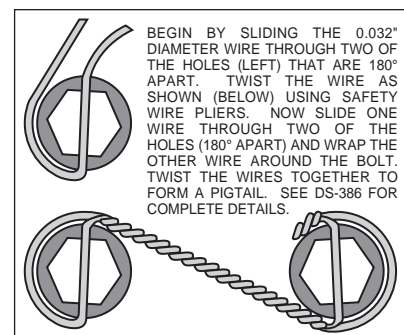

Figure 3. Safety Wire Diagram
- With the larger I.D. side of the rotor (3) facing away from the hat (4), bolt rotor (3) to hat (4) through the backside of the rotor using washers (5) and bolts (6). Using an alternating sequence, apply red *Loctite*® 271 to the threads and torque bolts to 155 **in-lb**. For an added measure of security, the bolts may be safety wired using standard 0.032 inch diameter stainless steel safety wire as shown in Figure 3. Please refer to Wilwood's data sheet DS-386 (available at www.wilwood.com/Pdf/DataSheets/ds386.pdf) for complete safety wire installation instructions. Slide the rotor/hat assembly onto the spindle. Install a couple of lug nuts (hand tighten) to keep the rotor/hat assembly in place while continuing with the installation.